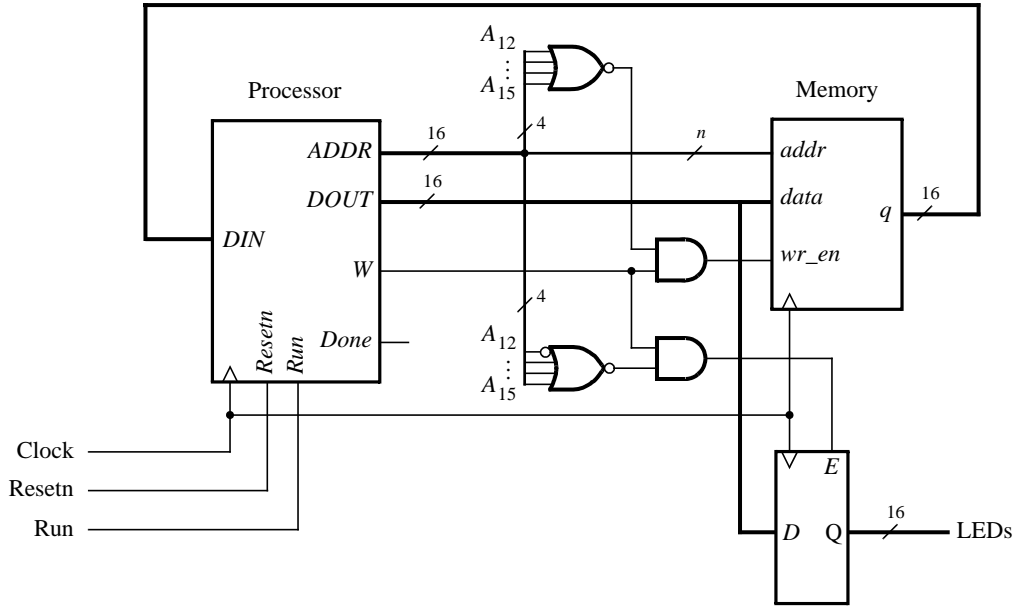

Figure 8. Connecting the enhanced processor to a memory and output register.
Figure 8 illustrates how the enhanced processor is connected to memory and other devices. The memory unit in the figure supports both read and write operations and therefore has both address and data inputs, as well as a write enable input. The memory also has a clock input, because the address, data, and write enable inputs must be
loaded into the memory on an active clock edge. This type of memory unit is usually called a *synchronous random access memory* (*synchronous RAM*). Figure 8 also includes a 16-bit register that can be used to store data from the processor; this register might be connected to a set of LEDs to allow display of data on the DE2 board. To allow the processor to select either the memory unit or register when performing a write operation, the circuit includes some logic gates that perform *address decoding*: if the upper address lines are $A_{15}A_{14}A_{13}A_{12} = 0000$, then the memory module will be written at the address given on the lower address lines. Figure 8 shows n lower address lines connected to the memory; for this exercise a memory with 128 words is probably sufficient, which implies that $n = 7$ and the memory address port is driven by $A_6 \dots A_0$. For addresses in which $A_{15}A_{14}A_{13}A_{12} = 0001$, the data written by the processor is loaded into the register whose outputs are called *LEDs* in Figure 8.
2. Write VHDL code for the processor and test your circuit by using functional simulation: apply instructions to the *DIN* port and observe the internal processor signals as the instructions are executed. Pay careful attention to the timing of signals between your processor and external memory; account for the fact that the memory has registered input ports, as we discussed for Figure 8.
3. Create another Quartus II project that instantiates the processor, memory module, and register shown in Figure 8. Use the Quartus II MegaWizard Plug-In Manager tool to create the ALTSYNCRAM memory module. Follow the instructions provided by the wizard to create a memory that has one 16-bit wide read/write data port and is 128 words deep. Use a MIF file to store instructions in the memory that are to be executed by your processor.
Connect the *LEDs* register in Figure 8 to *LEDR*_{15–0} so that you can observe the output produced by the processor.
1. Create a Quartus II project for your circuit and write the VHDL code that includes the circuit from Figure 8 in addition to your *seg7_scroll* module.